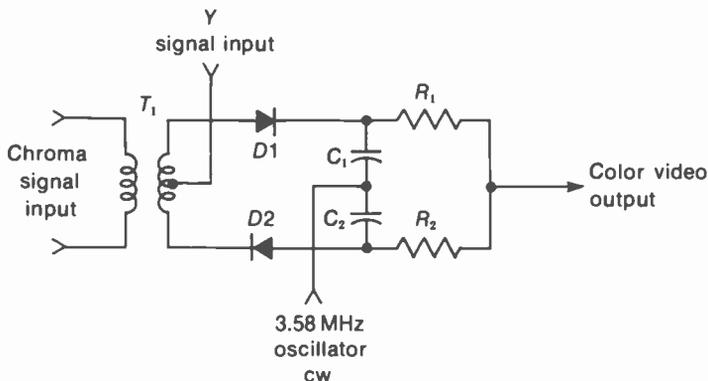

FIGURE 17-25 CIRCUIT FOR MATRIXING Y SIGNAL IN A COLOR DEMODULATOR.  $D1$  AND  $D2$  FORM ONE DEMODULATOR CIRCUIT FOR DETECTING  $R - Y$ ,  $B - Y$ , OR  $G - Y$ .
**Matrixing in the demodulators.** In Fig. 17-25, the Y signal is applied to the center tap of  $T_1$  for the chroma input. As a result, the Y signal is in series with the chroma signal for D1 and D2. The two diodes form one demodulator circuit. Three of these demodulators are used to detect  $R - Y$ ,  $B - Y$ , and  $G - Y$ . However, the matrixing of Y signal results in R, G, and B video output.